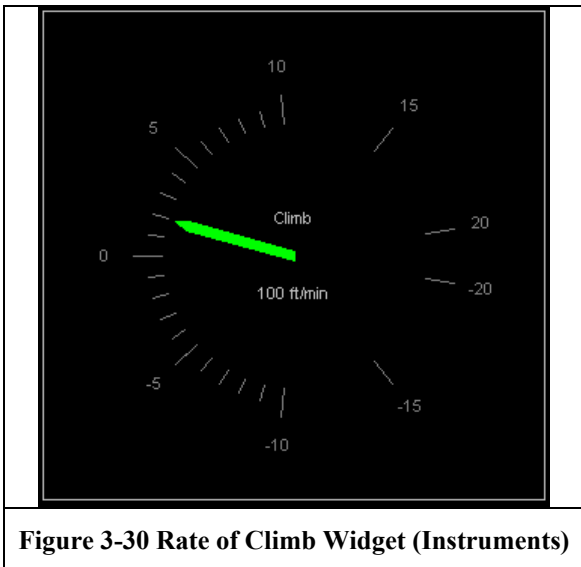

Figure 3-30 Rate of Climb Widget (Instruments)
The **Climb** display widget, shown in Figure 3-30 below, displays the value for the rate of climb. The Climb widget uses a single parameter from up to twelve (12) streams, including formulas and functions.